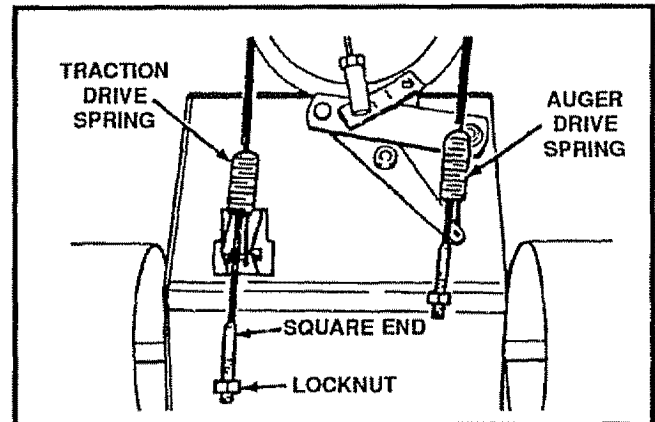

FIG. 23
- Push the cable through the spring (See Fig. 23) to expose the threaded portion of the cable.